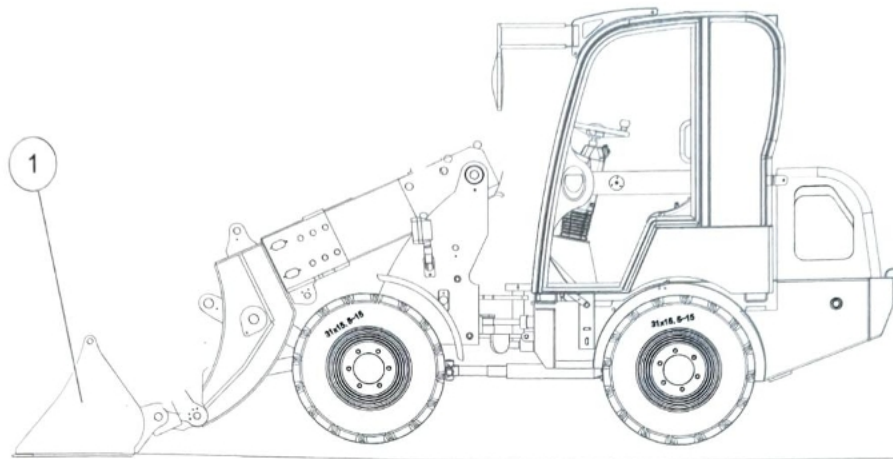

Figure 5-31 Stopped State
Step 2: Select the parking position of the loader, choose a flat ground as far as possible, and put the bucket (1) to the ground, as shown in Figure 5-31;